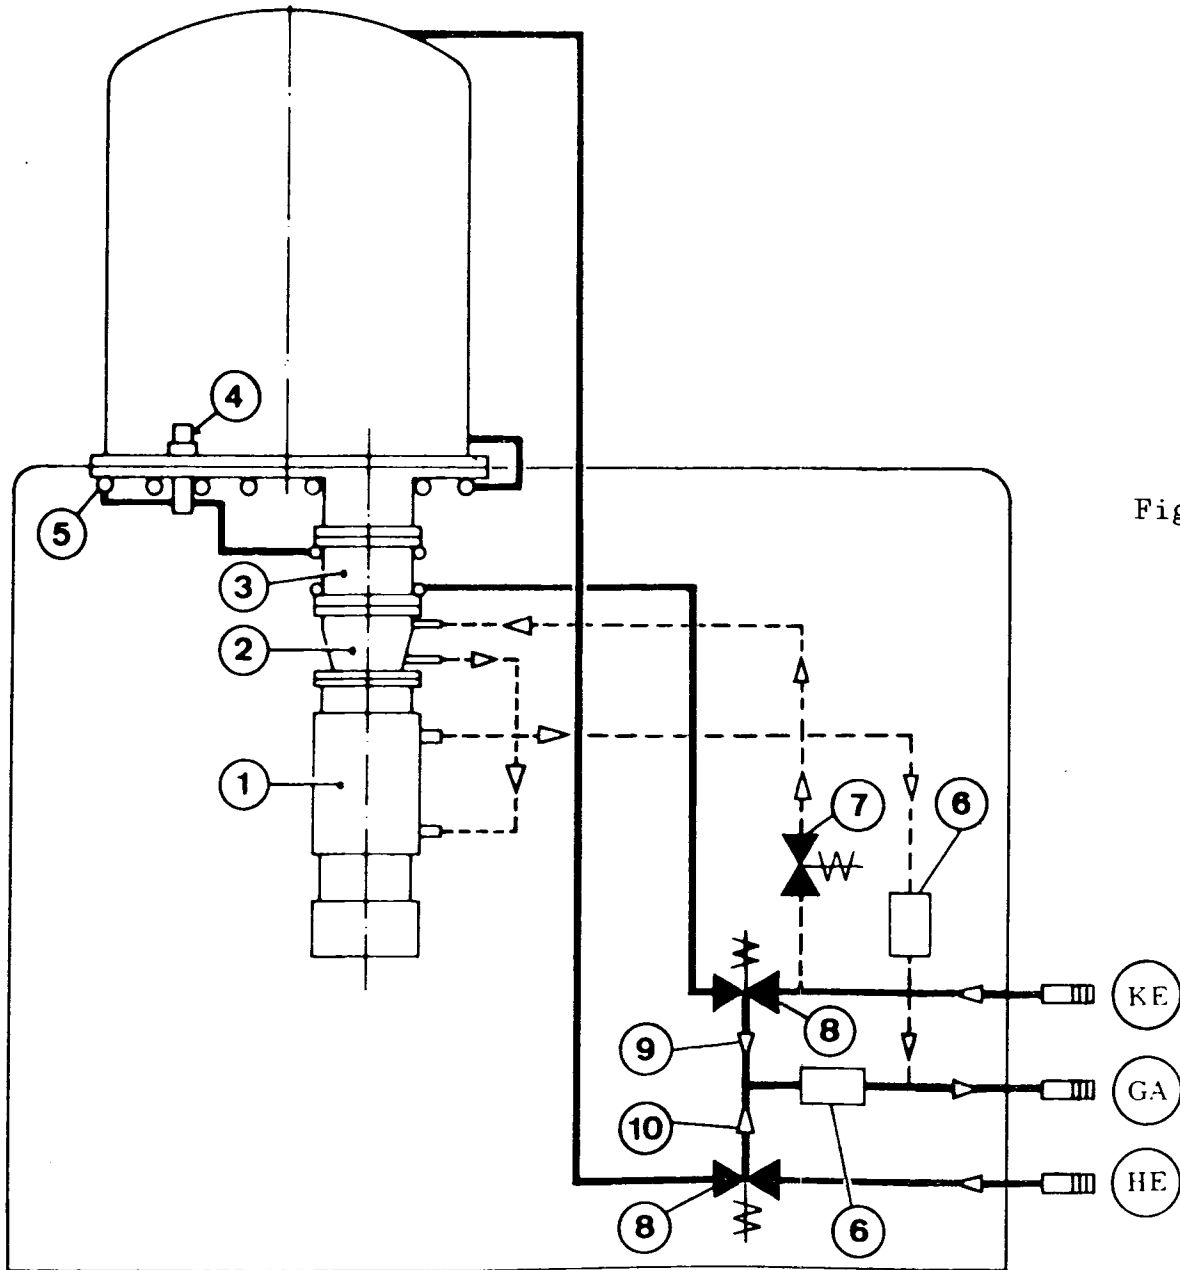
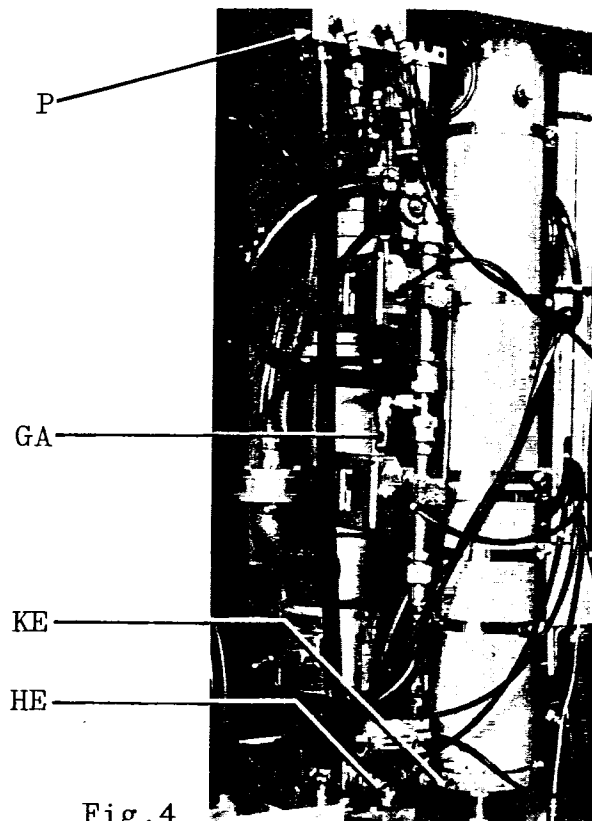

Fig.3
Fig.4
Connect the 13 mm ϕ hose nipple to the water mains through a shutoff cock. The cooling water pressure may not exceed 4 atmosphere pressure. If necessary, a pressure reducing valve must be incorporated. Connect this hose nipple to the one on the plant (KE). Refer also to the cooling water diagram Fig.3 and picture Fig.4.
The hot water supply line is connected to the plant through the hose nipple HE as shown in the cooling water diagram Fig.3 and picture Fig.4.
Connect the hose nipple 13 mm ϕ without shutoff cock to the drain pipe. The cooling water must flow away freely i.e. unthrottled. Connect the draining hose to the hose nipple GA as shown in the cooling water diagram Fig.3 and in picture Fig.4.
Connect the compressed air hose ϕ 6 mm to the compressed air supply and to the hose nipple P of the plant as shown in picture Fig.4.
5.3.10. Two flow relays mounted in the cooling system monitor the cooling water circulation of the diffusion pump as well as that of the bell jar and to the feedthroughs (refer to Fig.3). The diffusion pump heater cannot be switched on if the cooling water circulation is insufficient.